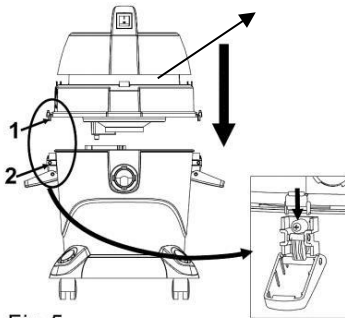

Fig.5
Step 5: Insert part 1 (on main body) into part 2 (of barrel). Then lock the latches (Fig. 5).